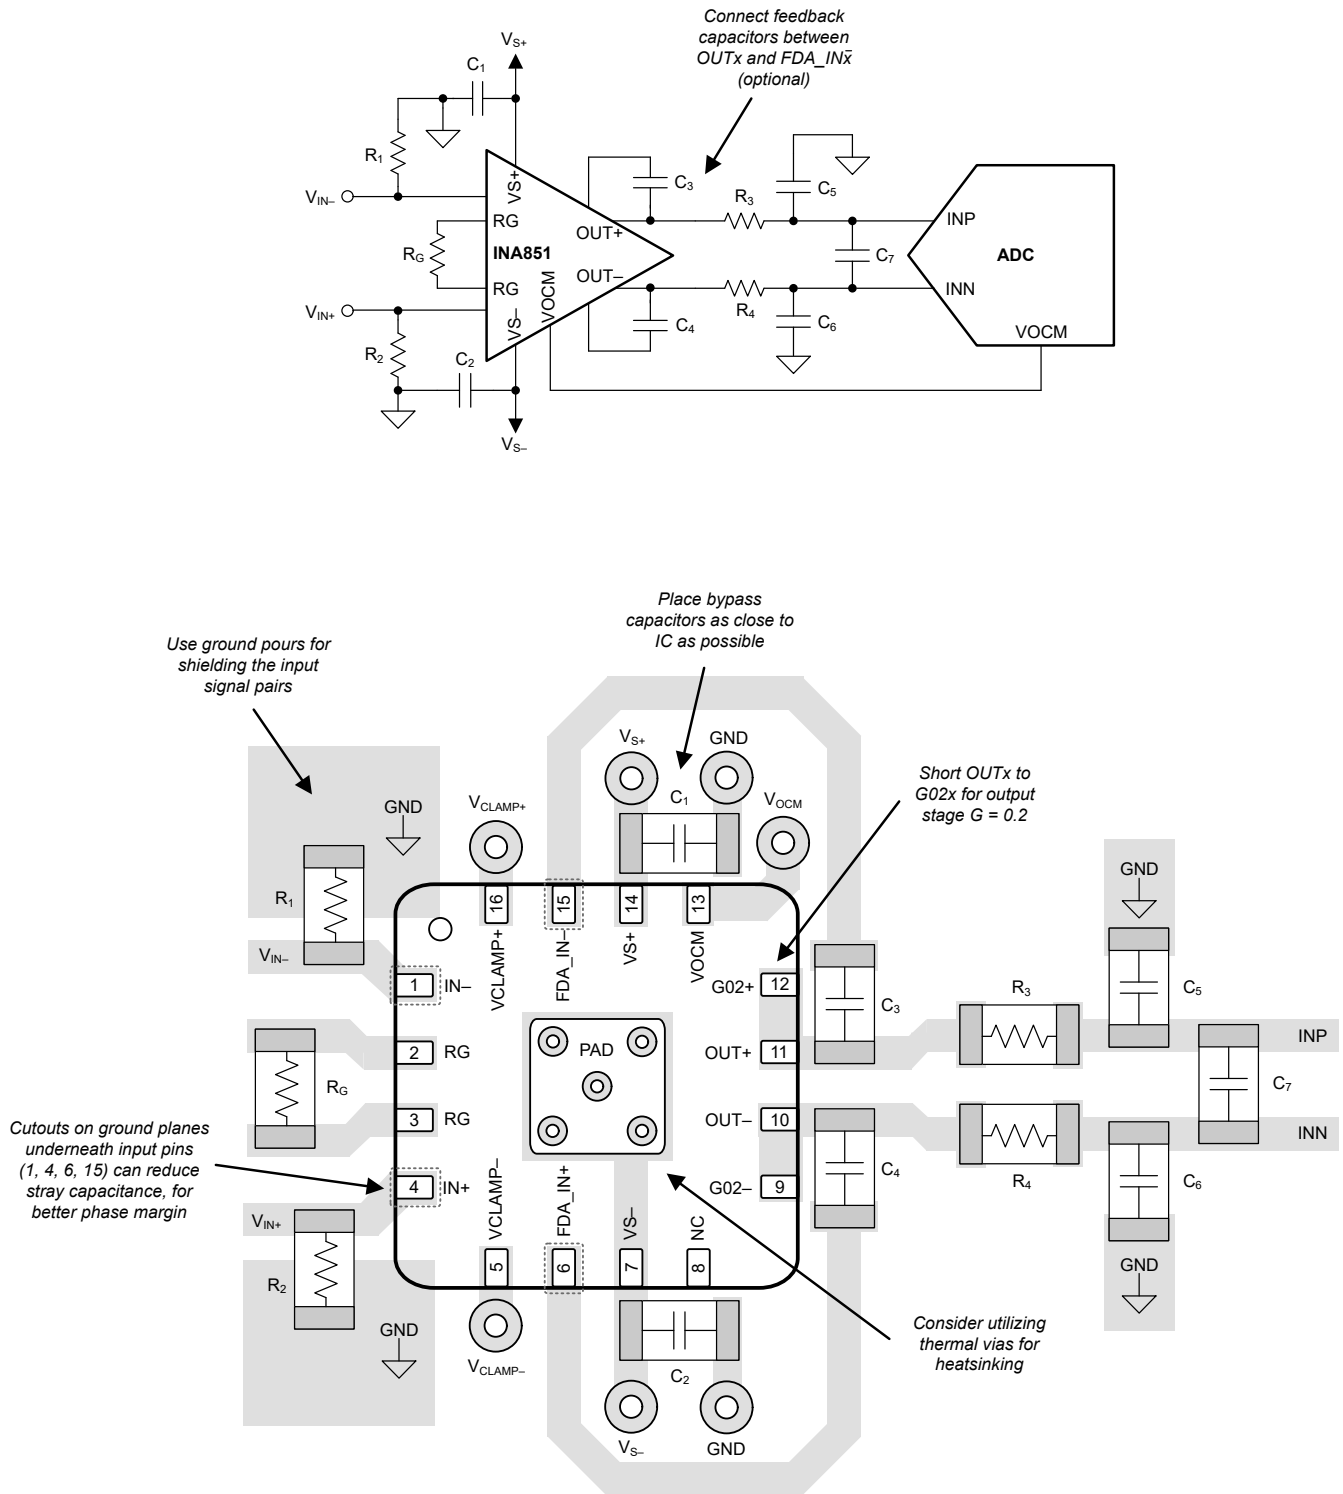

Figure 9-14. Example Schematic and Associated PCB Layout
- As shown in Figure 9-14, keep the external gain resistor close to the R_G pins to keep the loop inductance as low as possible and to avoid a potential parasitic coupling path. Even slight mismatch in parasitic capacitance at the gain setting pins can degrade CMRR over frequency. In applications that implement gain switching using switches or PhotoMOS[®] relays to change the value of R_G , select the component so that the switch capacitance is as small as possible, and most importantly, so that capacitance mismatch between the R_G pins is minimized.